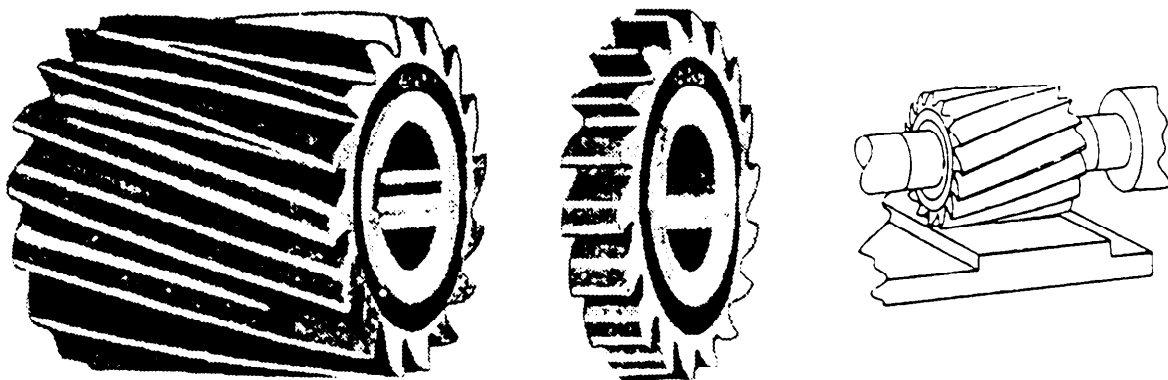

Figure 7-22.—Plain milling cutters.
**PLAIN MILLING CUTTER.**—You will use plain milling cutters to mill flat surfaces that are parallel to the cutter axis. As you can see in figure 7-22, a plain milling cutter is a cylinder with teeth cut on the circumference only. Plain milling cutters are made in a variety of diameters and widths.